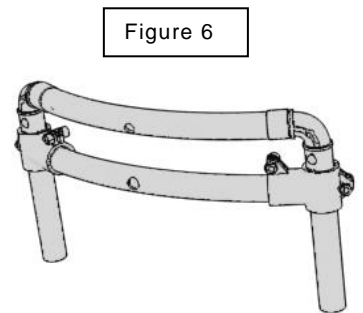

Figure 6
3. Replace the top of the backrest with the fixation's screws and the collars on the screws (Figure 6).